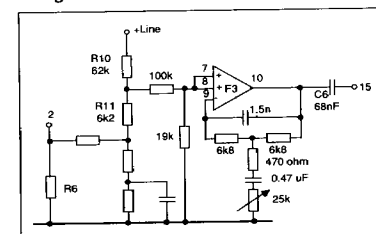

Figure 13. Used as an amplifier for an additional 20 dB receiving gain.
3. Give an extra 20 dB gain with volume control for the receiving amplification etc (See fig. 13).
By breaking up between pin 9 and 10, F3 can be used as an amplifier with amplification higher than one. (See fig.13).